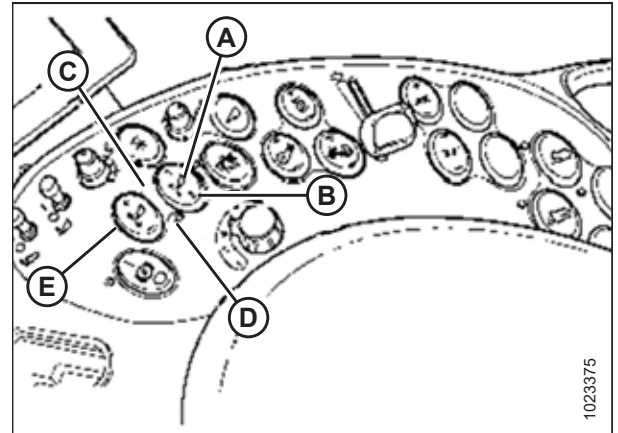

Figure 6.45: Case Combine Controls
You can adjust these set points by using FINE ADJUST switch (E) in Figure 6.45, page 91.